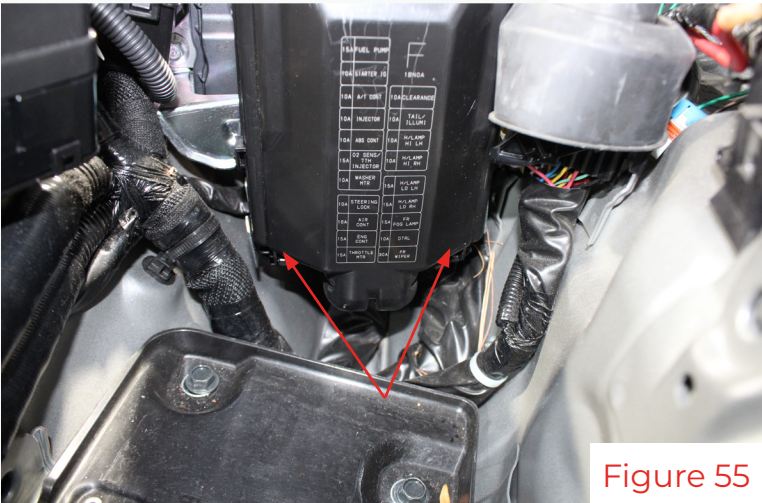

Figure 55
27. Release the two tabs on the bottom to remove the IPDM cover.(fig 55 & 56)